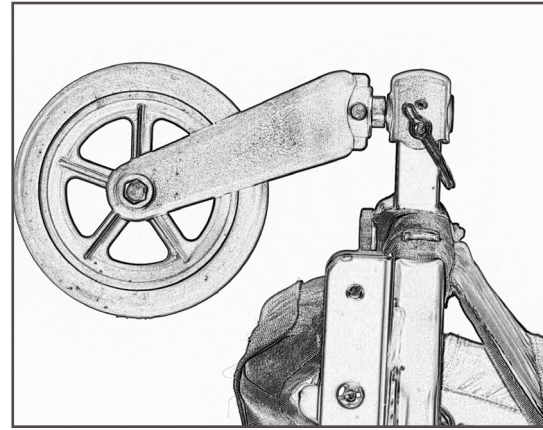

Figure 33
8. Insert the axle of the swivel wheel in the bracket and then insert the Quick-Release pin through the hole in the bracket, snapping the Quick-Release pin closed to lock the wheel in place (Fig. 33).